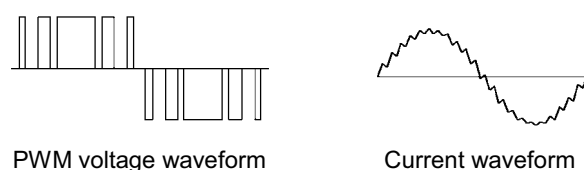
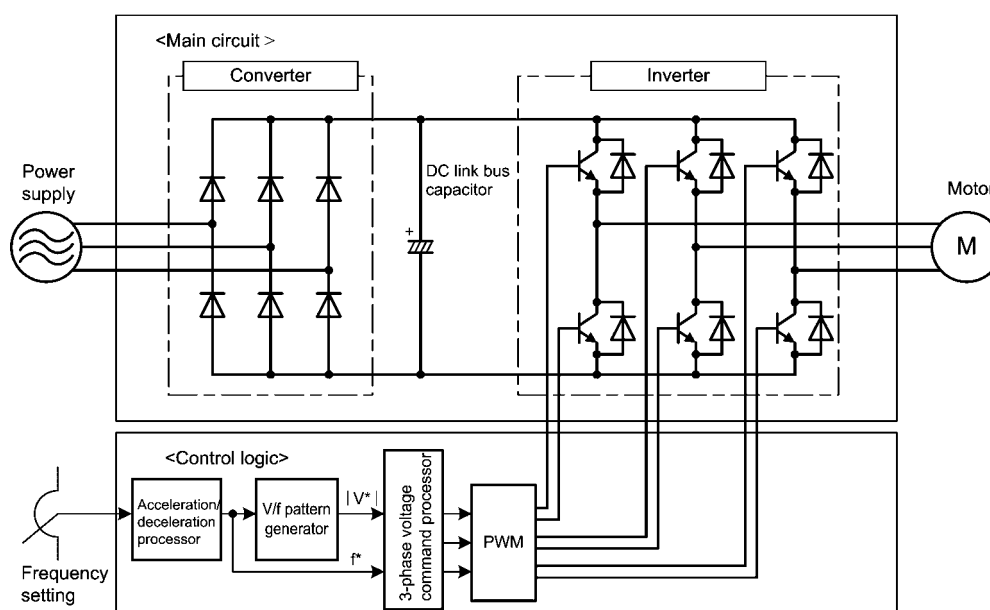

Figure 1.3 Output Voltage and Current Waveform of the Inverter
Figure 1.4 Schematic Block Diagram of FRENIC-Eco
As shown in Figure 1.4, the converter section converts the input commercial power to DC power by means of a full-wave rectifier, which is then used to charge the DC link bus capacitor (reservoir capacitor). The inverter portion modulates the electric energy charged in the DC link bus capacitor by Pulse Width Modulation (PWM) and feeds the output to the motor. (The PWM switching frequency is called the "Carrier Frequency.") The voltage applied to the motor terminals has a waveform shown on the left-hand side ("PWM voltage waveform") of Figure 1.3, consisting of alternating cycles of positive pulse trains and negative pulse trains. The current running through the motor, on the other hand, has a fairly smooth alternating current (AC) waveform shown on the right-hand side ("Current waveform") of Figure 1.3, thanks to the inductance of the motor coil inductance. The control logic section controls the PWM so as to bring this current waveform as close to a sinusoidal waveform as possible.